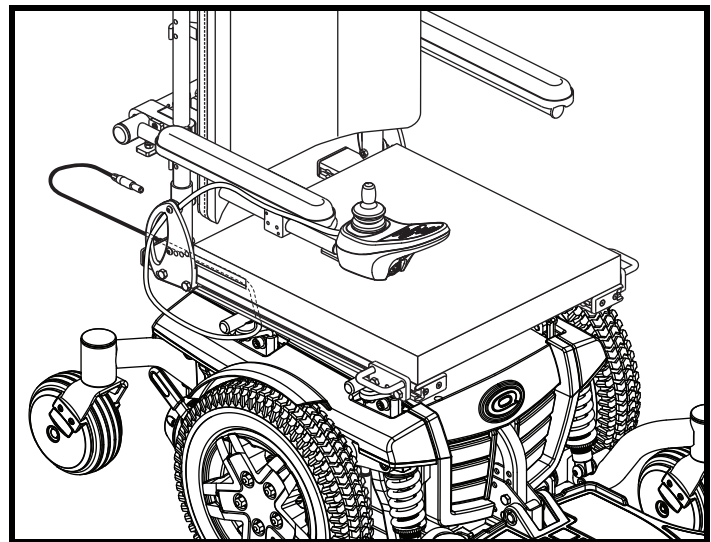

Figure 12. Controller Harness Routing on a Synergy Seat
4. Install the controller and route the harness to the back of the power base. See figures 12 or 13.